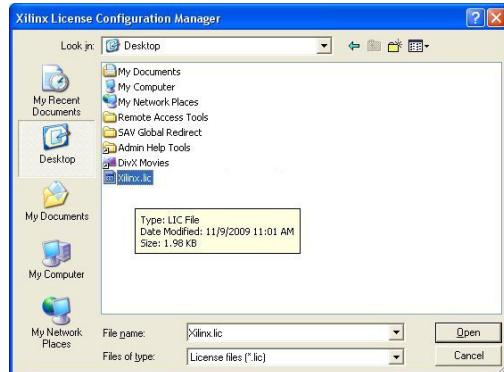

Figure 1-67: Select the xilinx.lic file
9. Navigate to the location where the Xilinx.lic file is saved and select it (Figure 1-67).